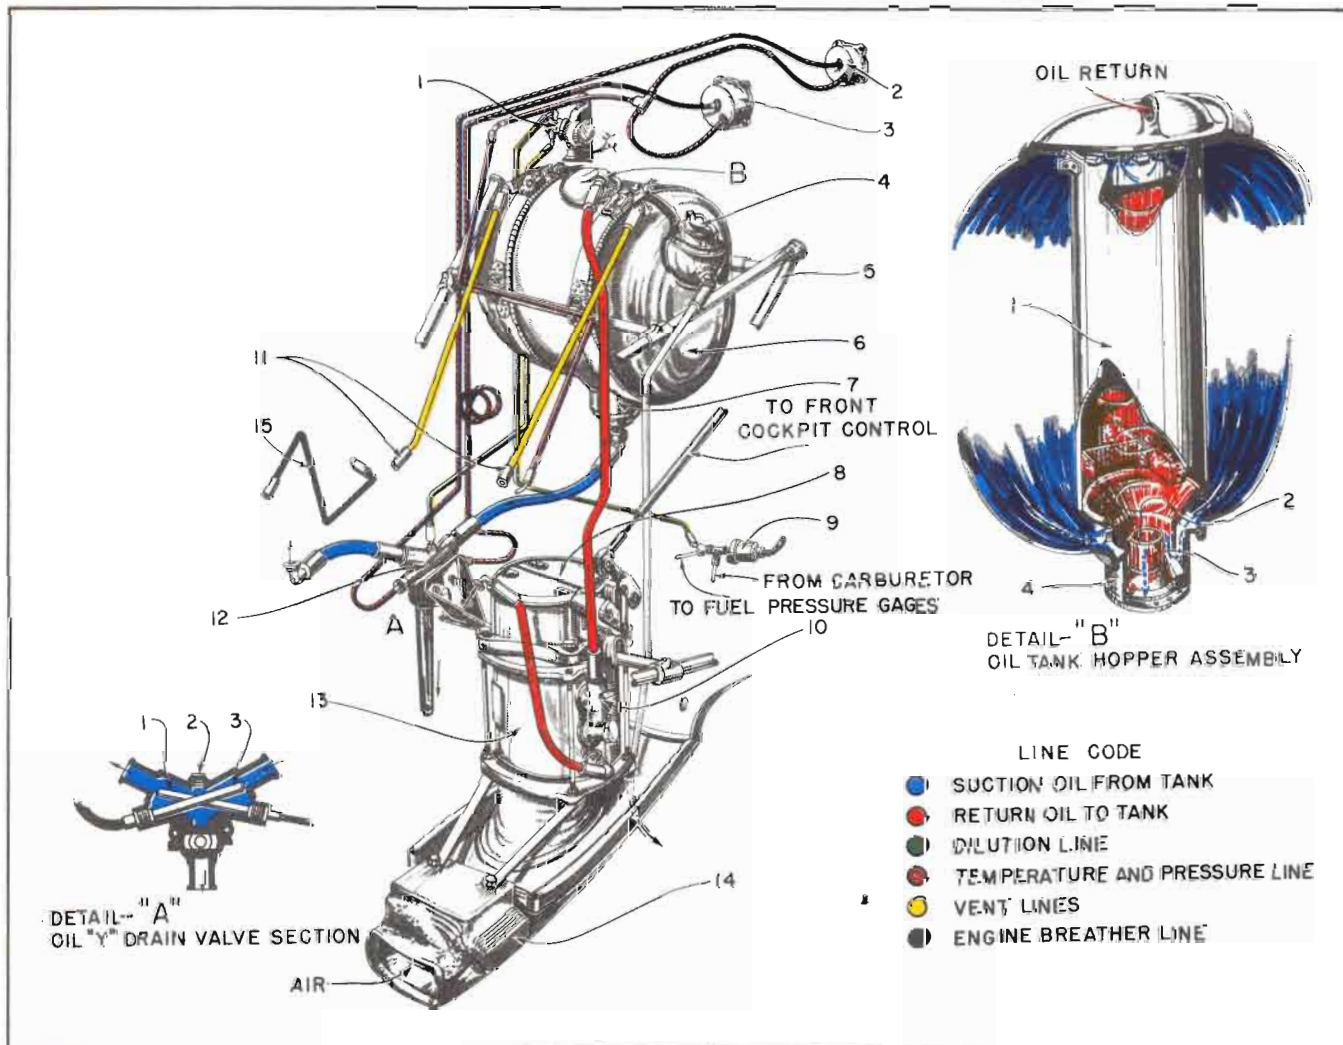

Figure 153 — Oil System Diagram
a. GENERAL.—(See figures 153 and 154.)—The oil system consists of an oil tank, and oil cooler, an engine-driven oil pump, an oil Y-drain valve, pressure and temperature indicators, and the necessary piping to carry the oil to and from the engine. The oil in the system flows from the bottom of the oil tank to the engine pressure pump. After circulating through the engine, the engine scavenger pump forces the oil back to the tank, either directly or through the oil temperature regulator, depending upon its temperature. The return flow of the oil to the tank is determined by a thermostatically controlled bypass valve at the oil temperature regulator. Oil system lines, including oil pressure lines, are identified with a *bright yellow band* about  $\frac{3}{4}$  inch wide. (Refer to section III, paragraph 3 for servicing instructions.)